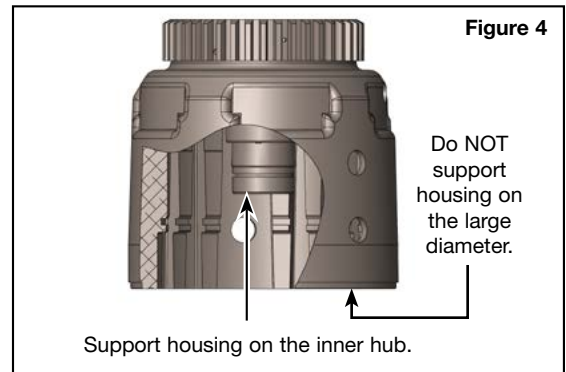

Figure 4
3. Support housing at the location indicated (**Figure 4**).